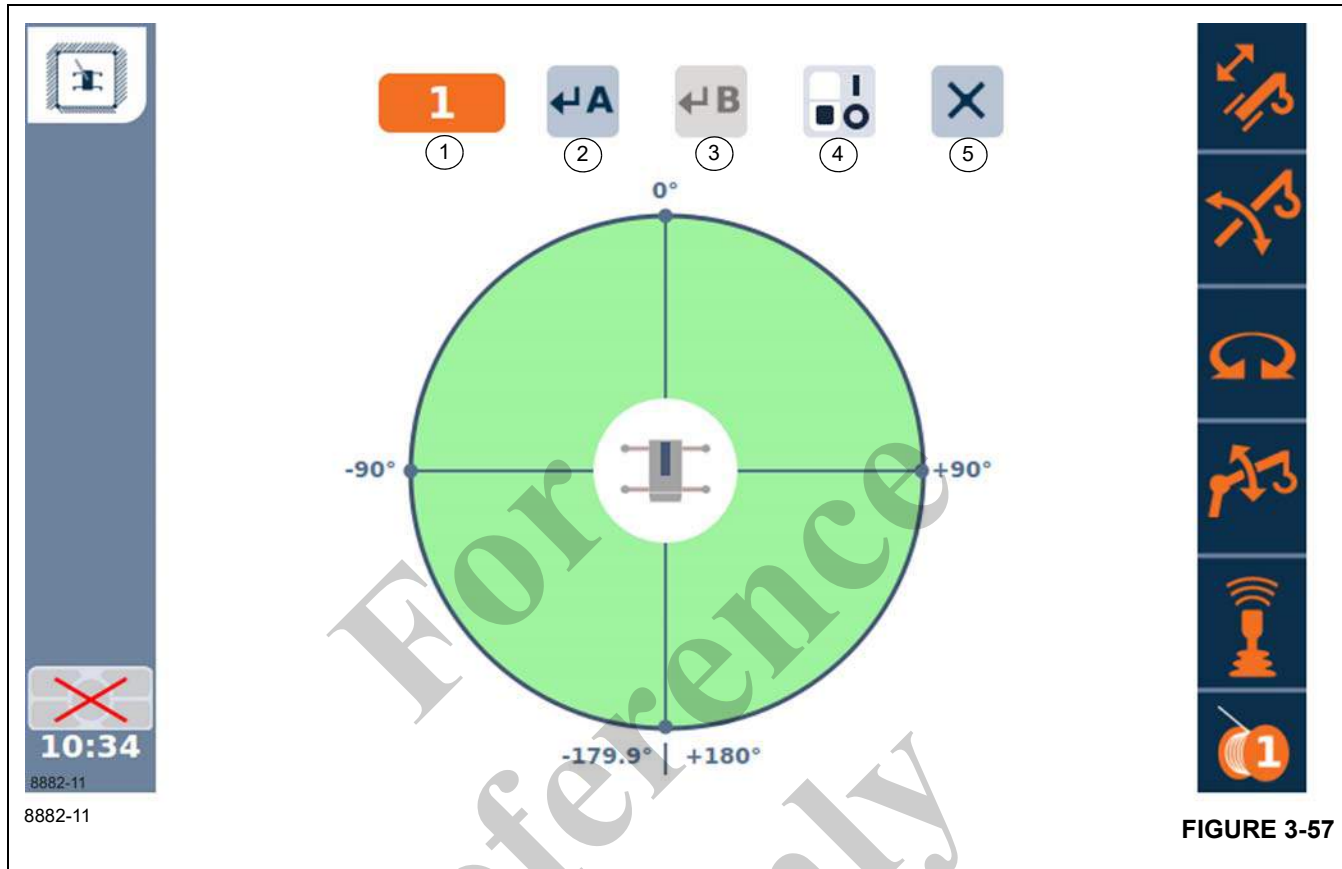

FIGURE 3-57
1. Select the Wall Limitation Screen (Figure 3-57) on the Main Menu Screen (and in this case there would not be any virtual walls shown as defined or active).
3. Use the Right Arrow function to highlight the Accept Crane Position Point A symbol (2).
6. Use the Right Arrow function, if needed, to highlight the Accept Crane Position Point B symbol (3).
1. Select the Wall Limitation Screen (Figure 3-57) on the Main Menu Screen.
5. Use the Right Arrow function to highlight the Accept Crane Position Point A symbol (2).
8. Use the Right Arrow function, if needed, to highlight the Accept Crane Position Point B symbol (3).
4. Use the Left Arrow and/or Right Arrow function or the jog dial to highlight the switch symbol (4).
2. Use the Right Arrow function to highlight the Virtual Wall Number (1).
4. Use the Left Arrow and/or Right Arrow function to highlight the Remove Virtual Walls symbol (5). Use an OK button to delete the wall.